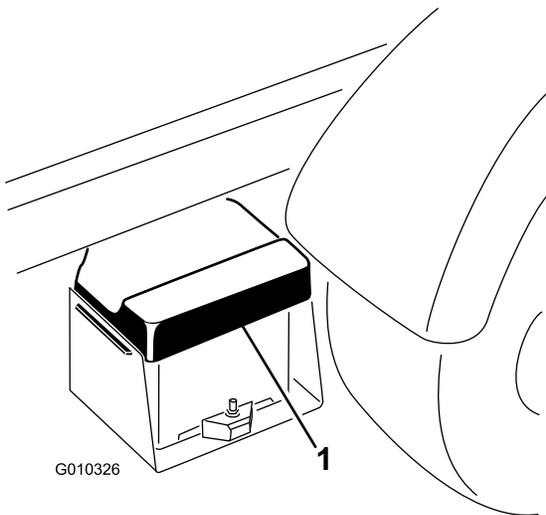

Figure 45
1. Squeeze the battery cover to release the tabs from battery base. Remove the battery cover from the battery base (Figure 45).